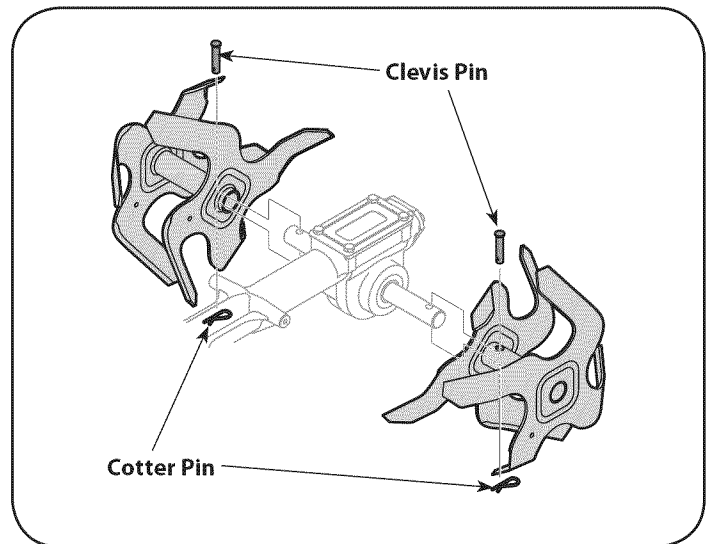

Figure 28
3. To remove a tine assembly, simply remove the cotter pin securing the clevis pin. See Figure 28.